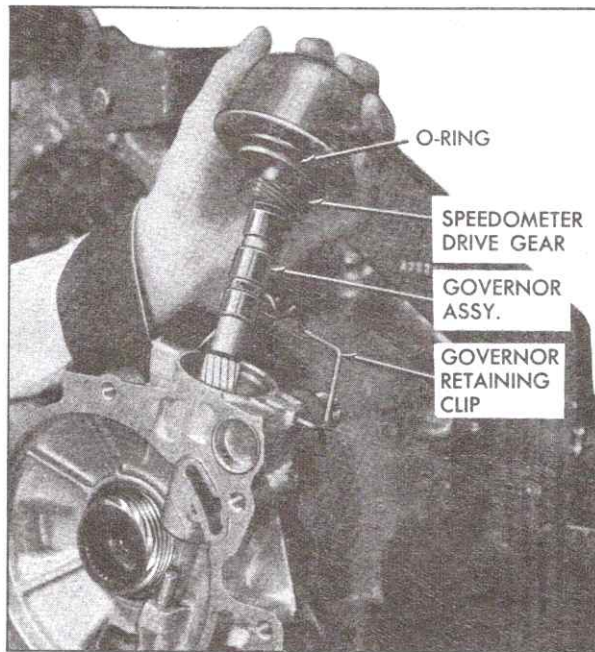

Fig. 7-139 Removing Governor Assembly
2. Remove governor assembly from case, and remove square-cut O-ring from governor assembly and discard O-ring, Fig. 7-139.